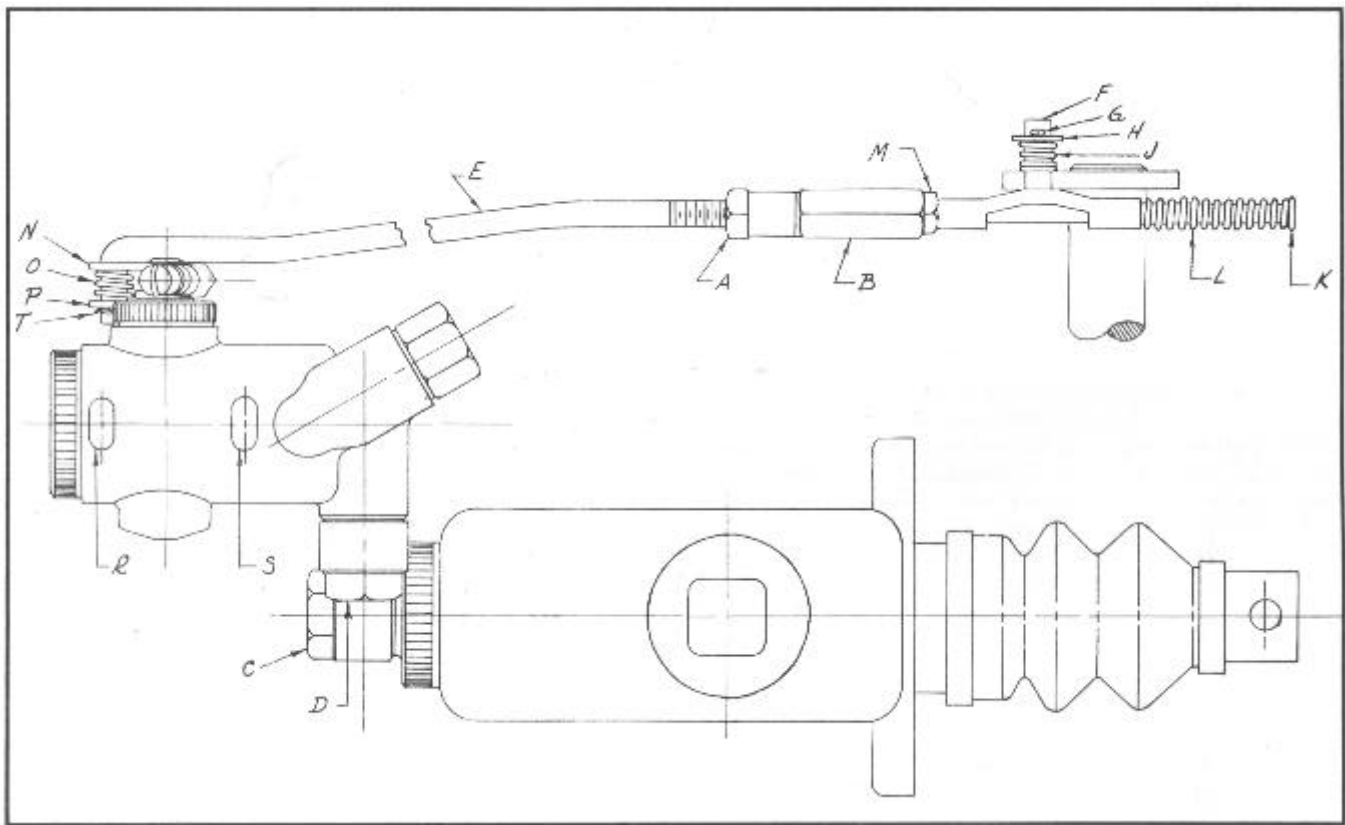

Figure 3
3. Assemble the Hill Hold unit—Figure 3—to the master cylinder by inserting bolt C. Bolts C and D should be drawn up snug but not tight, to permit leveling of the unit. Unit body should be above the master cylinder outlet hole.
2. Remove cotter key T, washer P and spring O — Figure 3 — and remove operating rod from operating arm.